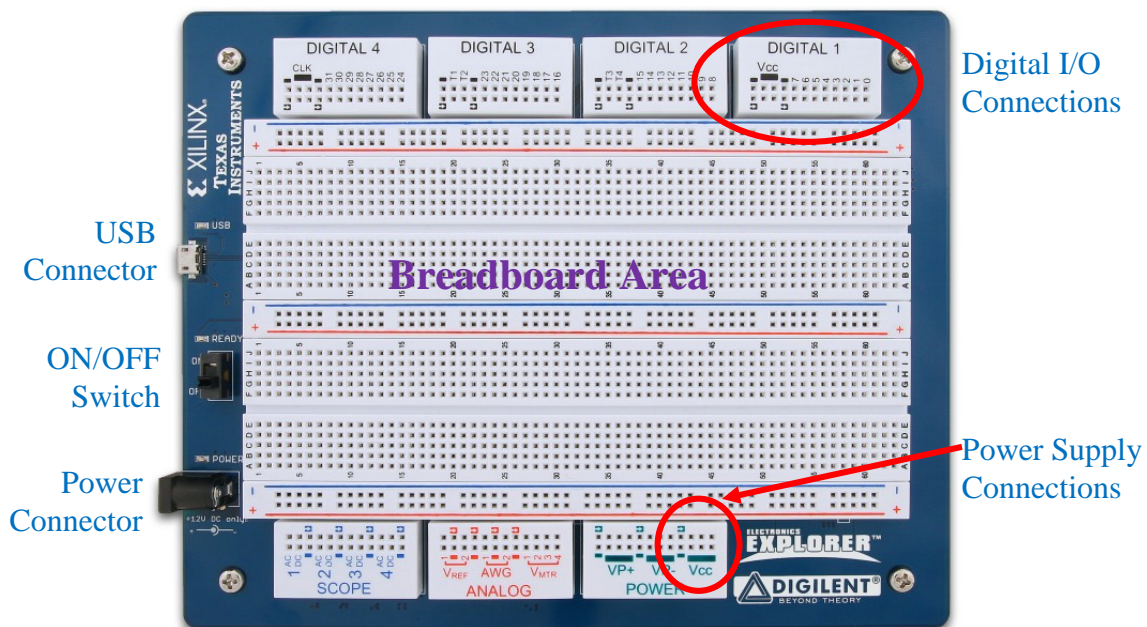
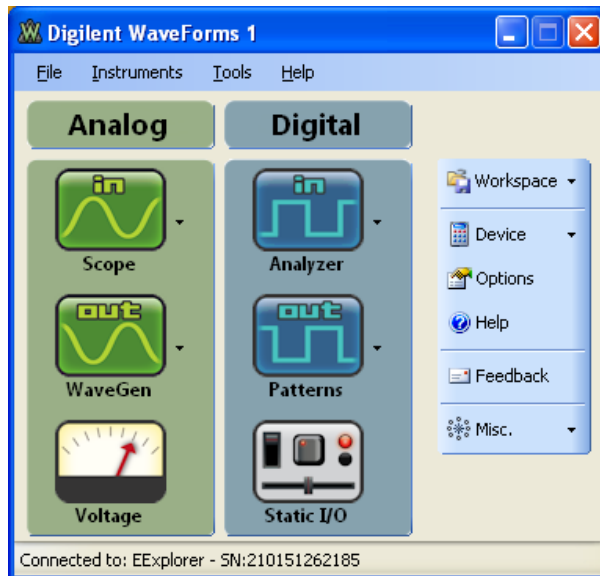

Figure 2. Digilent Electronics Explorer Board (EEBOARD)
Figure 3. Digilent *WaveForms* - EEBOARD User Interface
- Figure 2: Hardware block diagram of the board, showing the debug interface (ST-LINK), USB connector, microcontroller, pin headers, LEDs and push buttons.
- Figure 3: Top view of the board layout, showing pins on the two 33-pin headers (P1 and P2) and locations of components and connectors.
The platform on which projects will be built and tested is the Digilent *Electronics Explorer Board* (EEBOARD), shown in Figure 2. The EEBOARD has a breadboard area, plus connections to built-in power supplies and various debugging and test instruments (digital I/O, LEDs, switches, oscilloscope, waveform generator, logic analyzer, etc.) The EEBOARD is controlled from a USB-connected PC via the Digilent *WaveForms* graphical user interface, shown in Figure 3. This program is a free download from the Digilent web site.